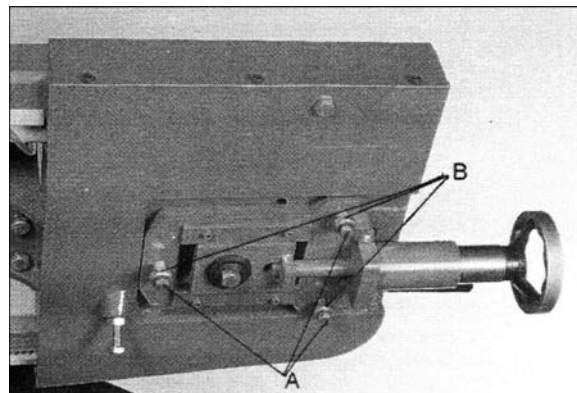

Figure 8
- Loosen the three bolts (A, Figure 8) located on the top of the tracking nuts.
- Tracking adjustment is accomplished by either loosening or tightening three adjusting nuts (B, Figure 8).
- Tighten locking bolts (A) once proper tracking is completed.